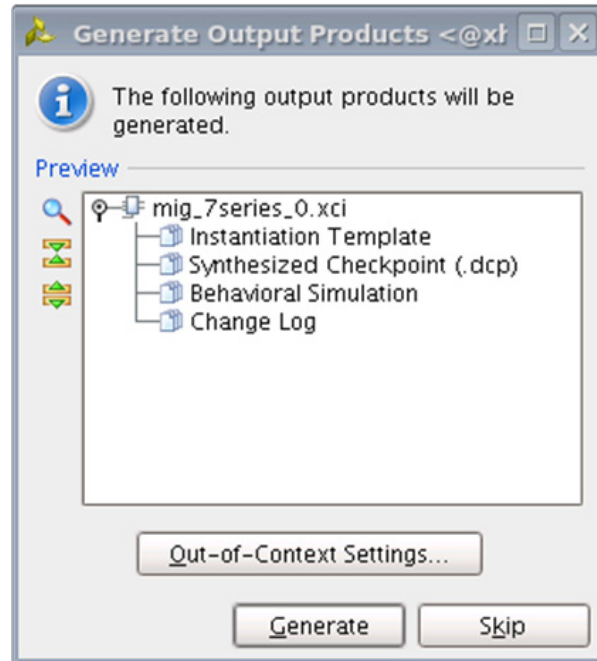

Figure 4-27: **Generate Output Products Window**
1. After clicking **Generate**, the **Generate Output Products** window appear. This window has the **Out-of-Context Settings** as shown in Figure 4-27.